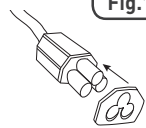

Fig.1
- ⚠ LORS DE L'UTILISATION DE L'APPAREIL DE CHAUFFAGE DANS UN ENDROIT OÙ IL POURRAIT ENTRER EN CONTACT AVEC DE L'EAU, ET POUR RESPECTER SON CLASSEMENT IP44, TOUJOURS VÉRIFIER QUE LA PRISE DU CÂBLE D'ALIMENTATION ÉLECTRIQUE EST MUNIE DE LA GARNITURE EN MOUSSE NOIRE AVANT DE LE BRANCHER DANS L'APPAREIL DE CHAUFFAGE COMPACT [FIG. 1].